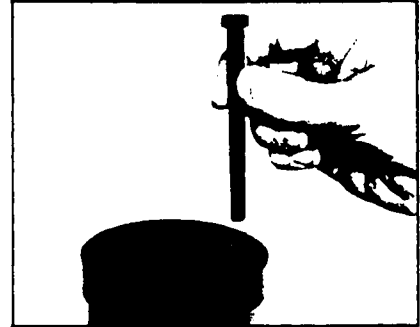

Figure 46
19. Install 7 bolts (1) into the assembly bolt holes finger tight, then torque the bolts to 22-26 foot pounds, (30-35 N.m), in the sequence shown, using a 1/2 inch, thin wall socket and appropriate torque wrench. SEE FIGURES 46, 47, 48.